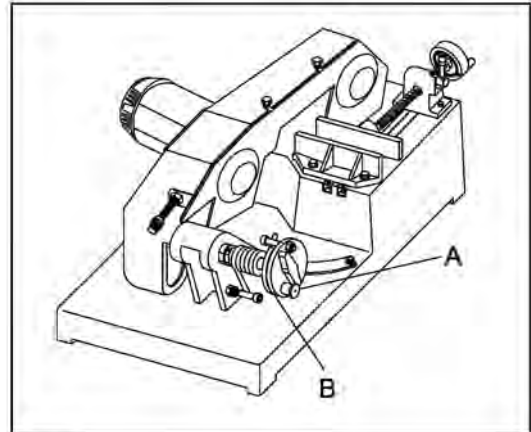

Fig.3
1. Release the lock-pin by pulling up the Knob (A) in Fig.3 a little bit.
2. Turn the wheel (B) toward the Knob and stop on the Mark M, let the lock pin slide in the slot. The rate of feed is for thick metal pipes cutting.